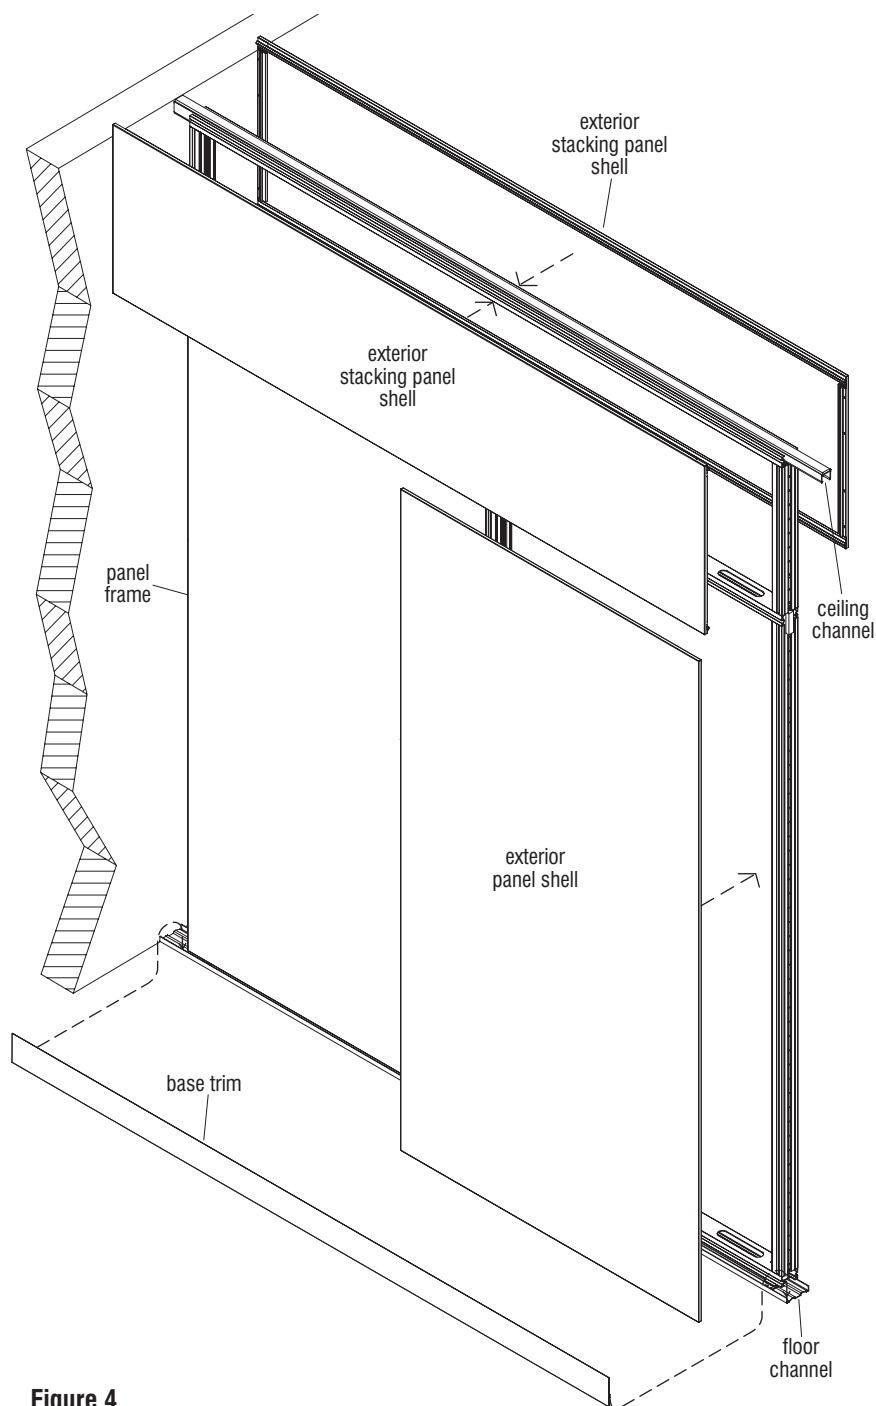

Figure 4
10. After assembled units are leveled, secured together and at their final installation location, re-install panel shells and base trim (Figure 4). Reference page 35 "Stacking Panel Section Overview" and see page 18 "Panel Shell/Trim Removal & Installation" as reference.